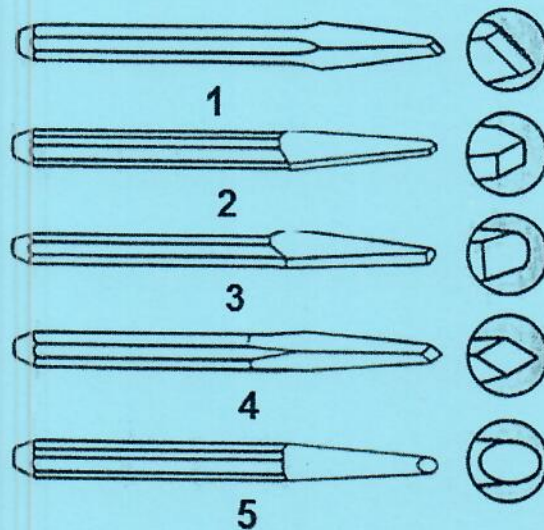

Figure 5. Types of chisels
- c) Figure 5 shows a variety of chisels used in workshop processes..